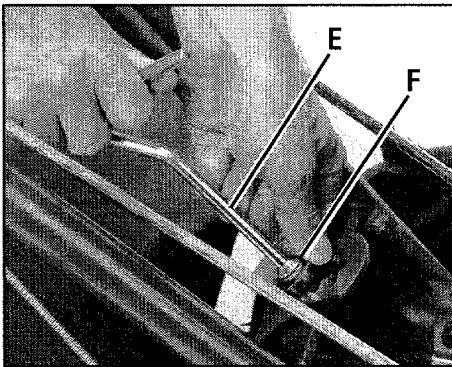

Figure 3-5: Height Adjusting handle (E).
3. Loosen the height adjustment handle (E, Figure 3-5) and pull the keyed washer (F) free of the slots in the curved height adjustment bracket.